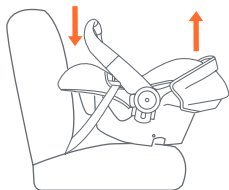

Fig. 53-2
2. **Safety Seat without Base:** Check that the Safety Seat is level side to side on the vehicle seat. Check the level Indicator appropriate for the weight of the occupant as shown in (Fig. 53-2).